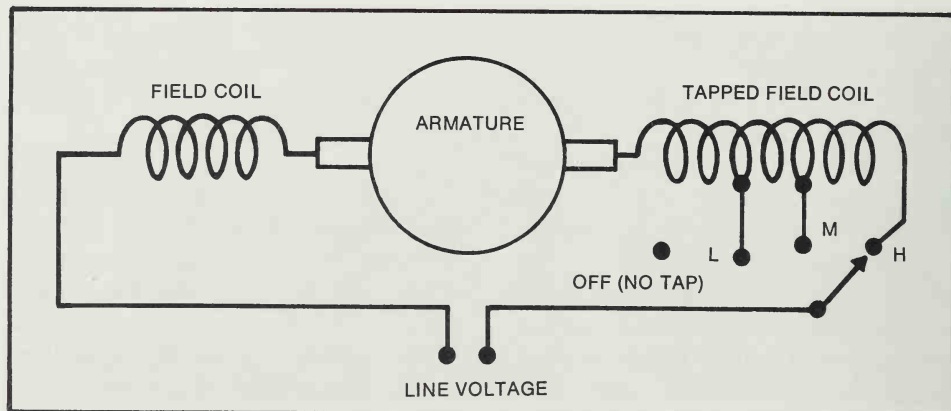

Figure 5. This line drawing of a tapped field-coil switch demonstrates that speed is controlled by the placement of the tap vis-a-vis the field coil.
In addition, the fact that many electric knives, shavers, and toothbrushes are "cordless" demands that the units be capable of working on battery power (Figure 5). As you know, a battery pack provides relatively low voltage.
Figure 5. This drawing shows the relationship of the armature and commutator (rotor) to the frame (stator) of a direct-current motor. Magnets (not visible) are in the frame. Notice the battery power pack. (The example here is the motor part of a cordless electric knife).
Figure 6. This drawing shows the essential parts needed to convert AC to DC and lower current to a usable level in the electric knife shown in Figure 5. The rectifiers convert AC to DC and the transformer reduces the voltage.
Let's suppose your mixer has a low-(L), medium-(M), and high-(H) speed switch. The setting of the switch taps one field coil. When the switch is on H, the entire coil is in the circuit, allowing maximum magnetism and, therefore, maximum speed. At M and L settings, the coil is progressively shortened, producing less magnetism and less speed (Figures 5 and 6). Incidentally, the number of taps does not have to be limited to three.